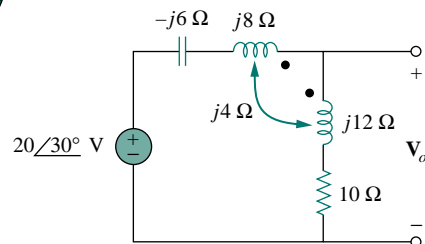

Figure 13.76 For Prob. 13.6.
13.6 Find V_o in the circuit of Fig. 13.76.